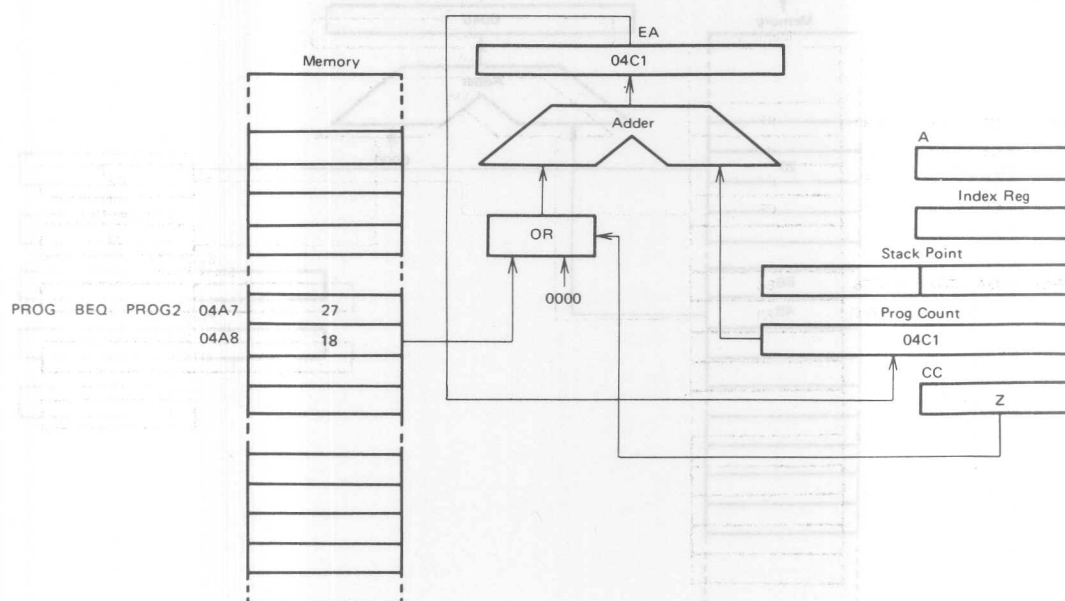

Figure 26 Relative Addressing Example
Refer to Figure 26. The relative addressing mode applies only to branch instructions. In this mode the contents of the byte following the opcode is added to the program counter when the branch occurs. $EA = (PC) + 2 + Rel$. Rel shows the contents of the 7-bit signed bit location following the instruction opcode. If branching doesn't occur, $Rel = 0$. When a branch takes place, the program goes to somewhere within the range of +129 bytes to 126 of the present instruction. These instructions are two bytes long.